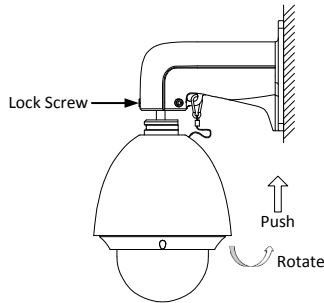

Figure 2-7 Align to the Bracket
- 4) Align the speed dome with bracket and rotate it to the bracket counterclockwise or clockwise tightly as shown in Figure 2-7.